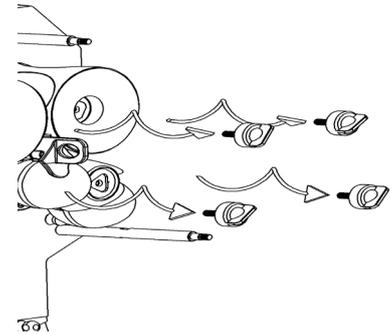

Figure 12
7- Remove the male screws (23) by unscrewing them (Figure 12).